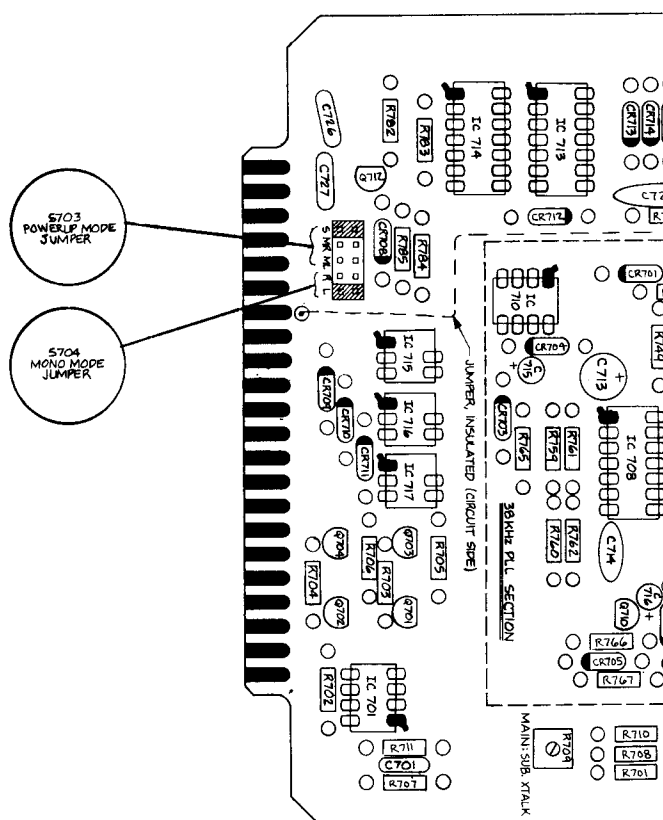

Fig. 3-2: Card #7 Powerup and Mono Mode Jumpers
- 1) **Powerup Mode:** OPTIMOD-FM is shipped to power up in STEREO mode. To restrap so that it powers up in either MONO LEFT or MONO RIGHT mode, you must move a jumper plug on Card #7 according to Fig. 3-2.
- 2) **Mono Mode:** The front-panel STEREO/MONO switch ordinarily forces MONO LEFT mode when MONO is selected by this switch. If MONO RIGHT is desired, move a jumper plug on Card #7 according to Fig. 3-2.